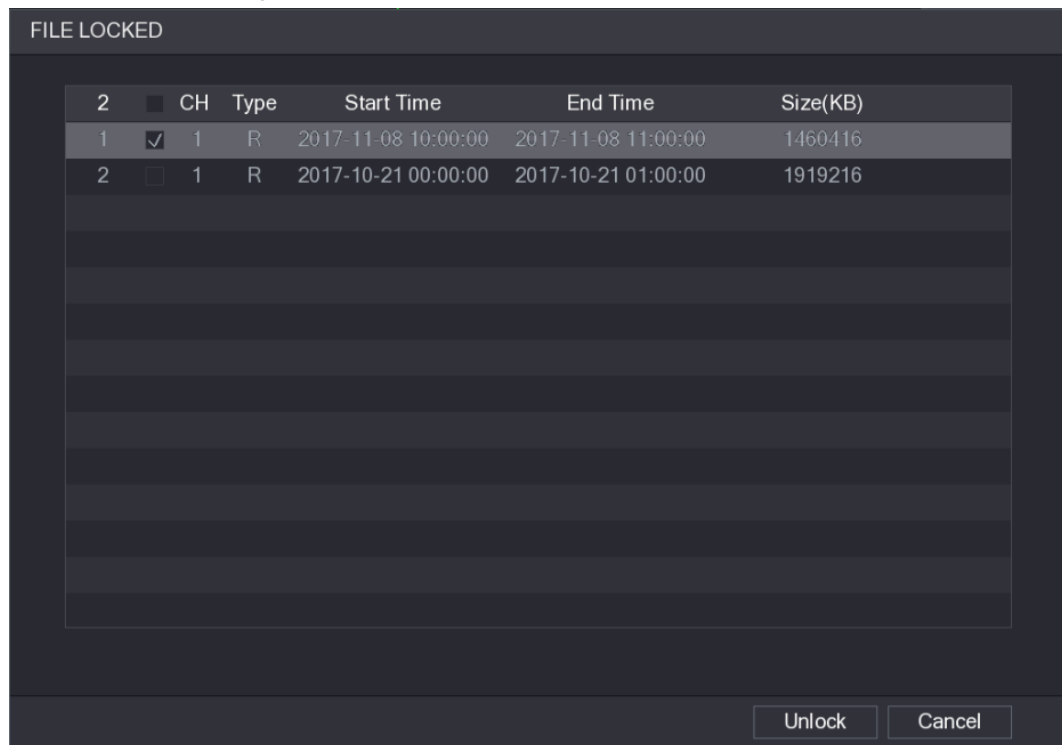

Figure 5-109
- To unlock the recorded video, in the **FILE LOCKED** interface, select the video, and then click Unlock. See Figure 5-109.